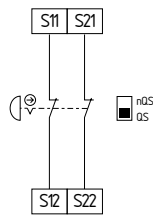

Fig. 8
**Dual-channel emergency stop circuit with command devices to ISO 13850 and IEC 60947-5-5 (Fig. 8)**